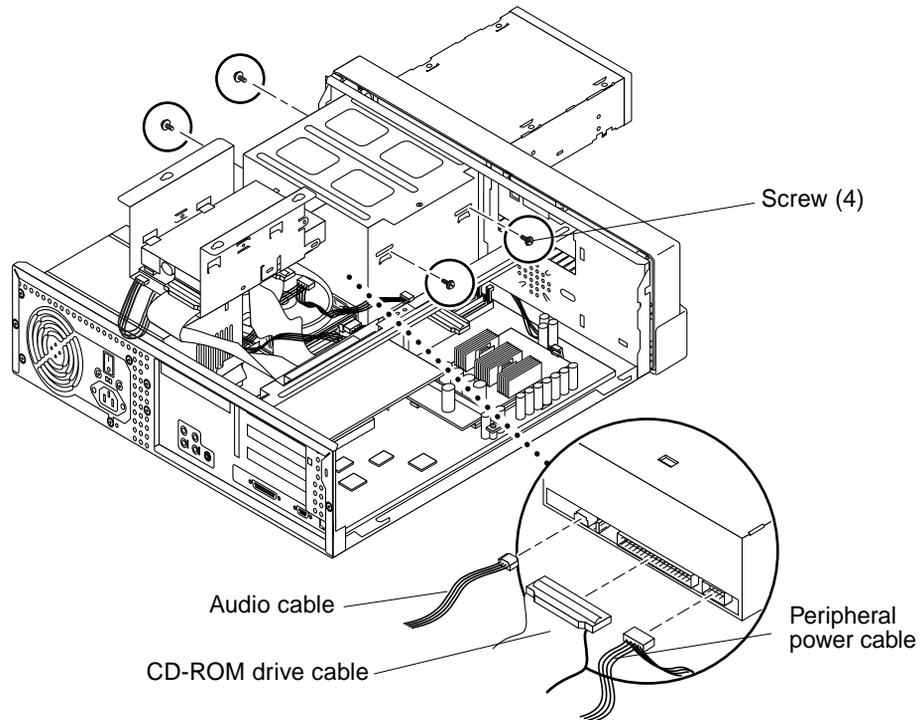

FIGURE 9-8 Removing and Replacing a CD-ROM Drive (Ultra 5)
5. Remove the CD-ROM drive from the Ultra 5 as follows (FIGURE 9-8):
- 2. Replace the CD-ROM drive into the Ultra 5 as follows (FIGURE 9-8):**